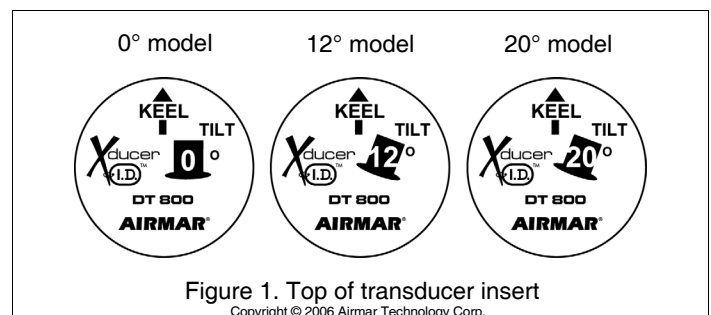
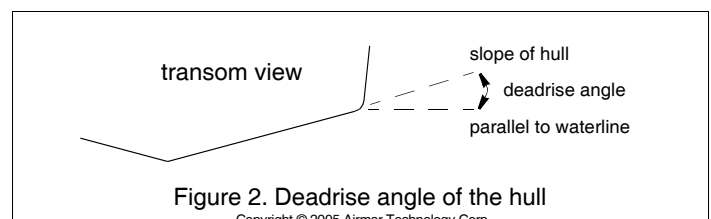

Figure 1. Top of transducer insert
Figure 2. Deadrise angle of the hull
Be sure your transducer model matches the deadrise angle of your boat at the mounting location. See the top of the transducer insert for the tilt angle (Figure 1). To measure the deadrise angle of your hull at the selected mounting location, use an angle finder or a digital level (Figure 2).
6. **Slide the insert into the housing with the arrow on the top pointing toward the KEEL or centerline of the boat** (Figure 1). Be sure the insert is fully inserted.